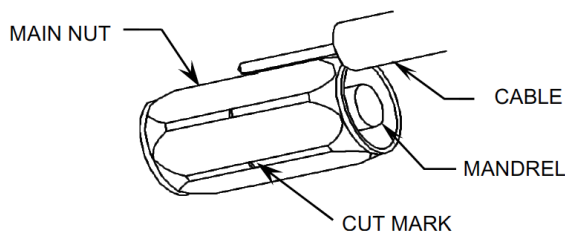
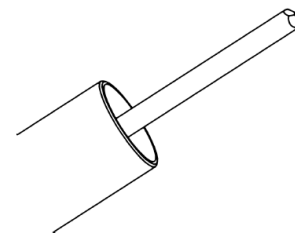

Fig. 4
Fig. 5
4. Verify cable center conductor length by using the CUT MARK on the connector MAIN NUT as shown in Figure 4. Using diagonal cutters or pliers, make a cut half way through center conductor then rotate cutters 90° and complete the cut to give a pencil type point as shown in Figure 5. Repeat for other cable end.